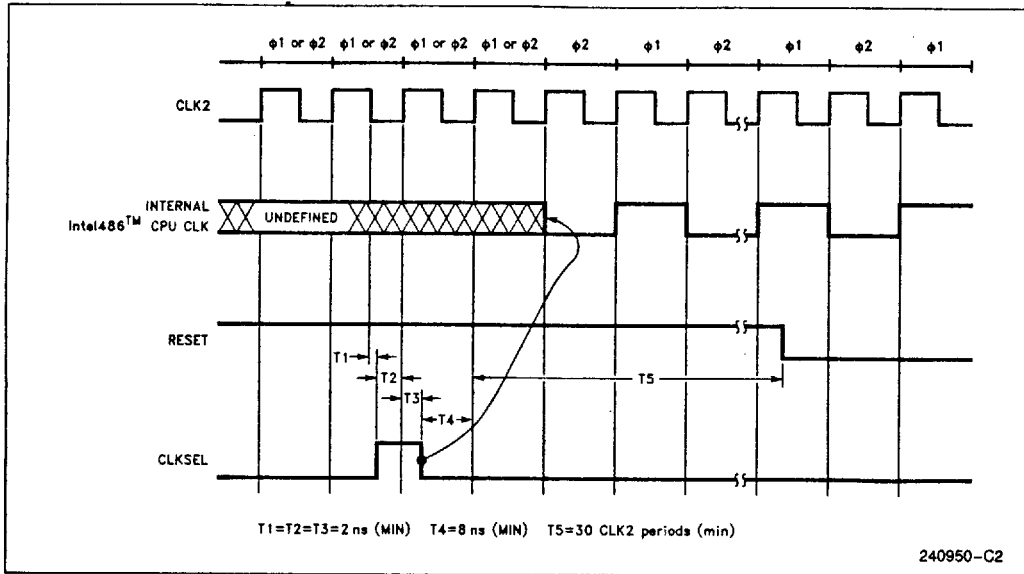

Figure 16.6. CLKSEL Timing Definition during Power-Up Reset
Figure 16.6 shows the detailed timing definition of this pulse. The pulse on CLKSEL pin is only required during power-up reset. During all other times including warm resets the CLKSEL pin should be driven low and must be free of spikes or glitches. After the power-up reset, the system must track the phase of CLK2 at all times including during warm resets so that the input/output signals can be sampled at the appropriate clock edge. The phase relationship is described in the next section.
1. Frequency can be changed at least 8 clocks after satisfying t_4 (see Figure 16.6). The system can be started at a lower frequency and after satisfying the CLKSEL pulse specifications, it can be operated at the required speed.